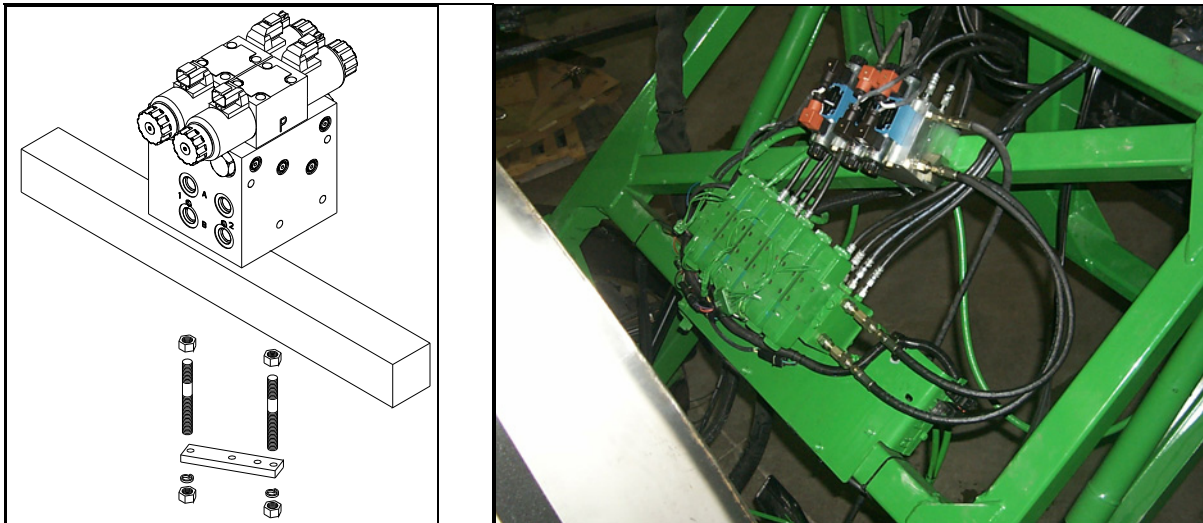

Figure 25: Valve Block Mounting
⚠ The recommended location for the valve is on the angled cross tube of the parallel linkage on the sprayer. Orient the valve block so the "A" and "B" ports face towards the boom (Figure 25).
1. A suitable mounting location for the valve block is illustrated in **Figure 25**.